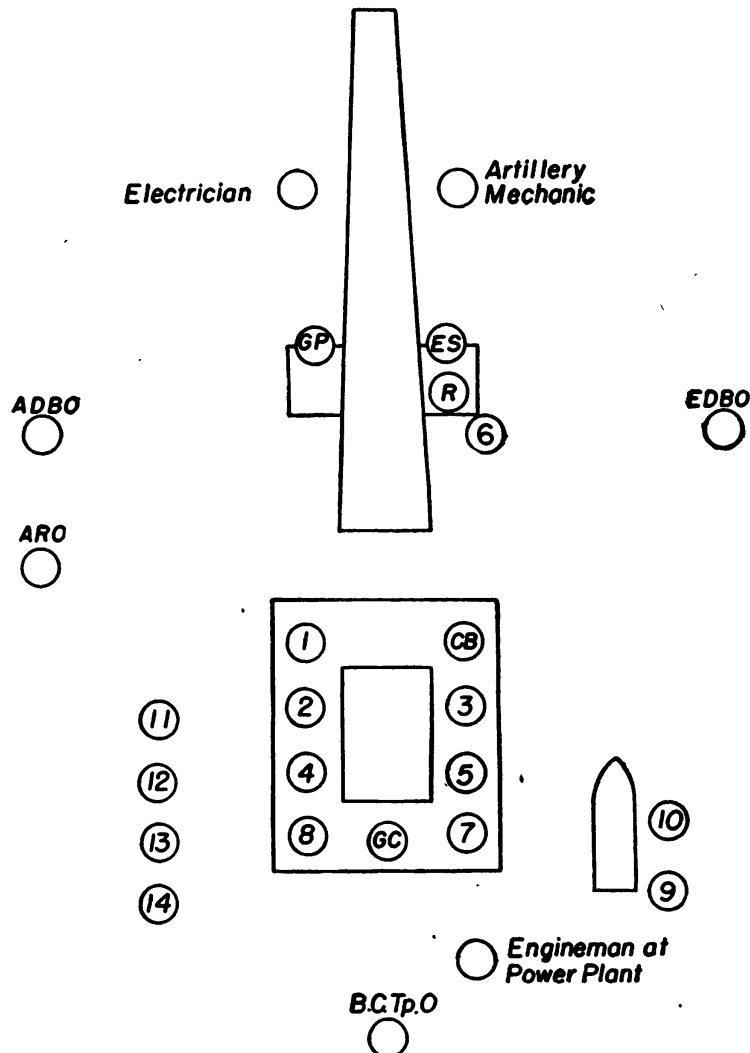

FIGURE 4.—Posts of cannoneers at command DETAILS, POSTS.
Q. What are the posts of the cannoneers at the command DETAILS, POSTS? A. See figure 4.